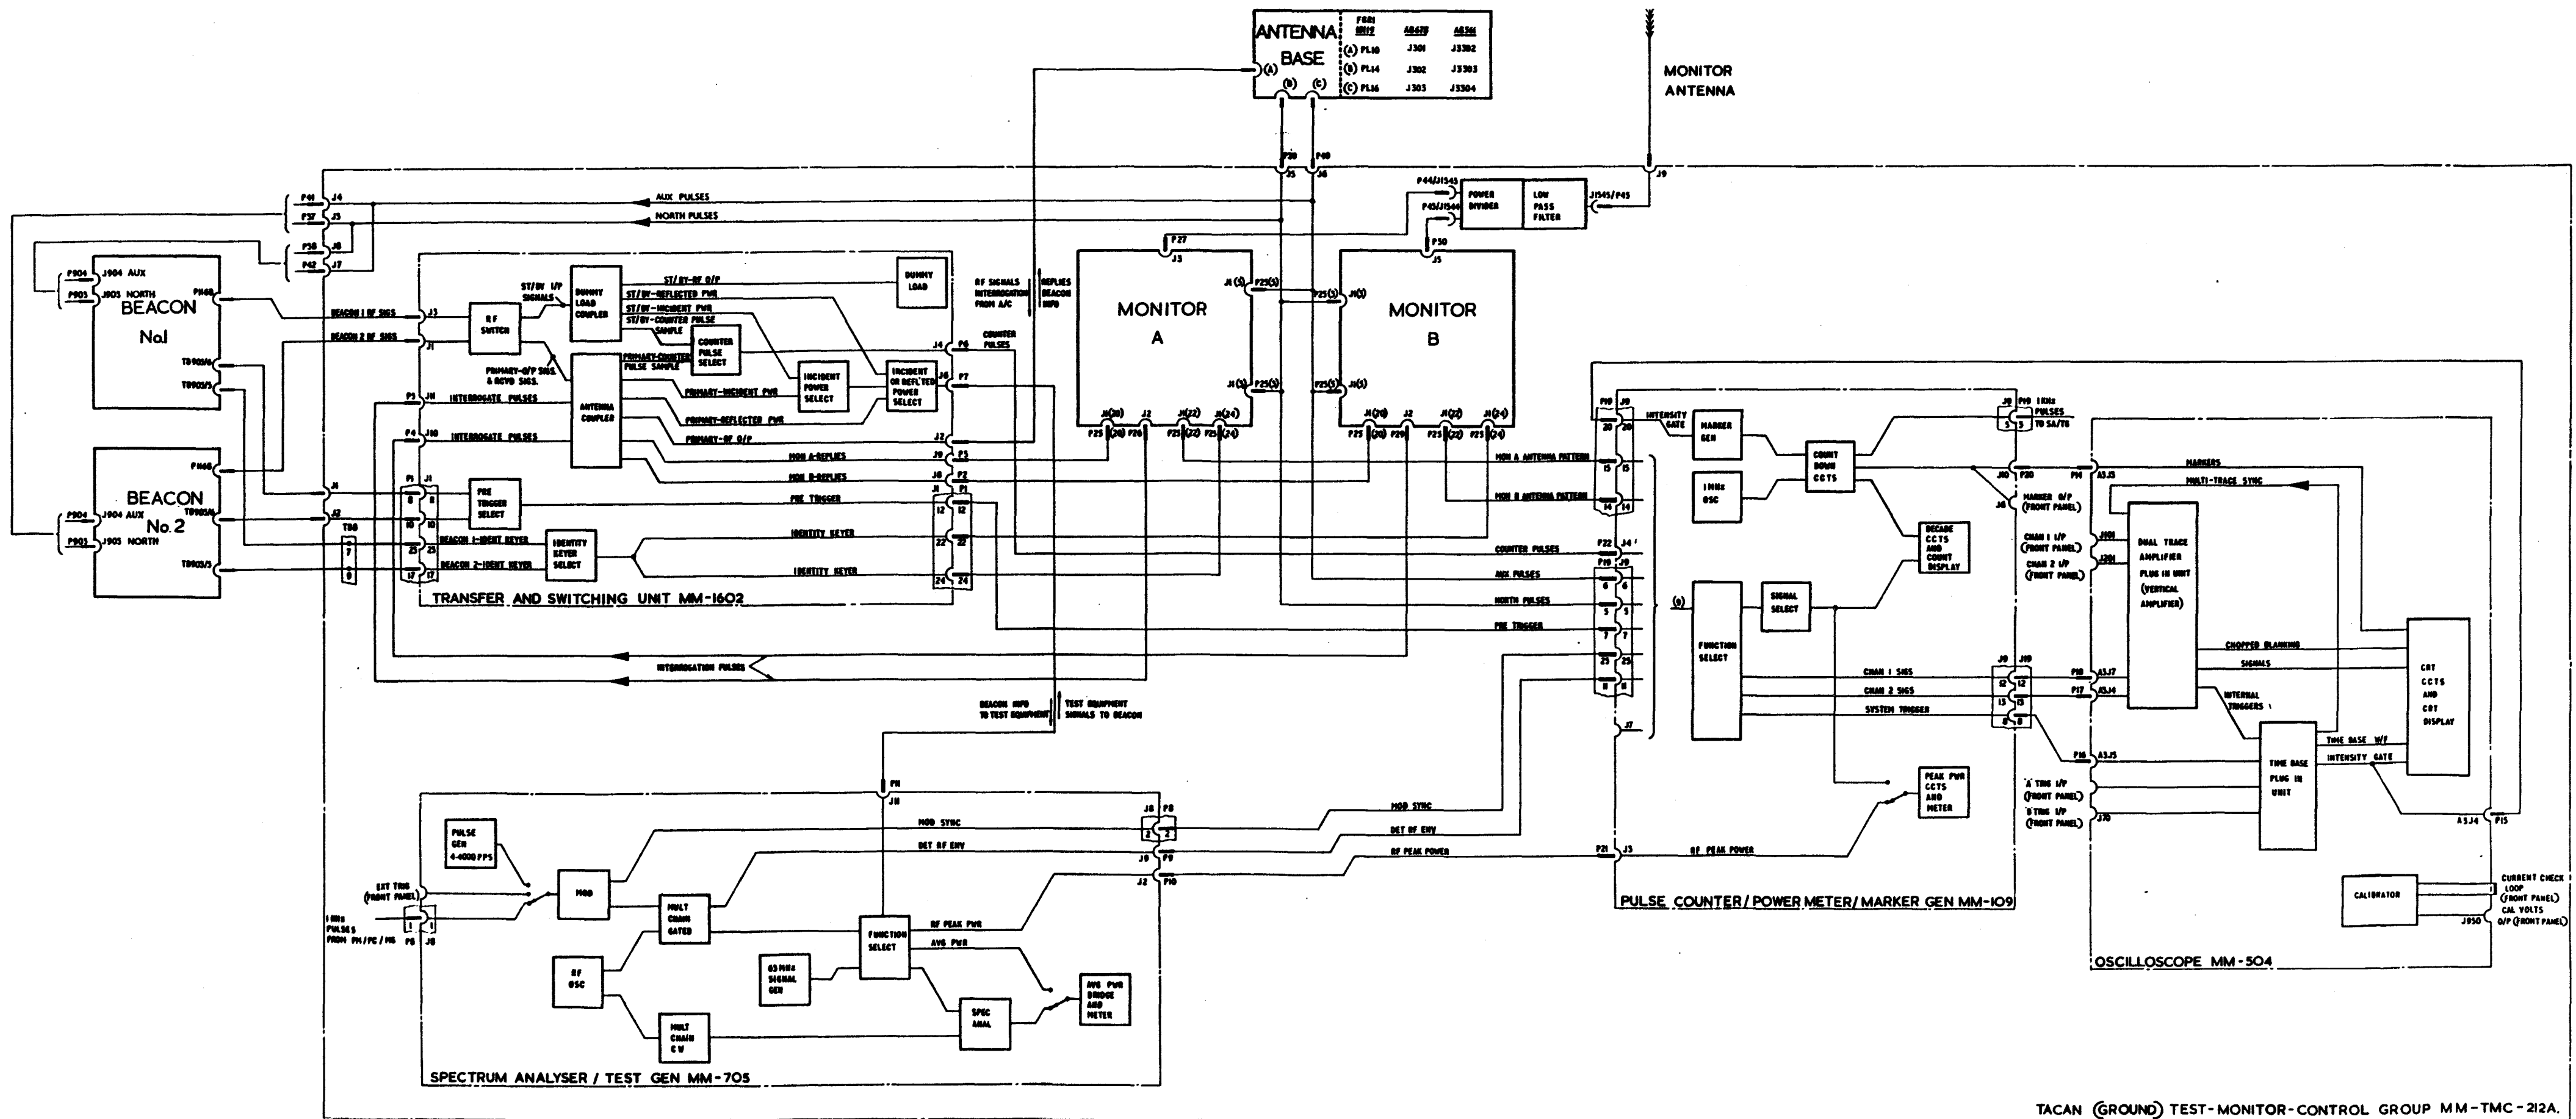

Figure 2-11a. TEST EQUIPMENT SIGNAL/CONTROL INTERCONNECTIONS. (SHEET 1 of 2)
- (1) Pulse-Sweep Generator SG-121A/URN-3 (Technical Manual NAVSHIPS 92745).
- (2) Pulse Analyzer-Signal Generator TS-890A/URN-3 (Technical Manual NAVSHIPS 93231).
- (3) Power Meter-Pulse Counter TS-891/URN-3 (Technical Manual NAVSHIPS 92809).
- (4) Switch-Test Adapter SA-420/URN-3 (Technical Manual NAVSHIPS 92809).
- (5) Oscilloscope OS-54/URN-3 (Technical Manual NAVSHIPS 92778).
e. BUILT-IN TEST EQUIPMENT INSTALLATION (MM-TMC-212A). - The MM-TMC-212A has been designed to replace the built-in test equipment described in para 2-4d and completely replaces the AN/GRA-34 Control Monitor Group. Minor modifications to the AN/GRN-9D are necessary in order to incorporate the TMC-212A and these are described in AP 116C-0702-1A6A which also includes complete installation details of the TMC-212A. The schematic and wiring diagrams in this manual incorporate the changes resulting from the introduction of the TMC-212A and a block diagram of the equipment is shown in Fig 2-11a whilst Fig 3-13a shows the front panel connections required to perform certain standard tests described in paragraph 3-6a(12). The TMC-212A rack comprises the following pieces of test equipment whose functions are briefly described in TABLE 1-2b.
- (1) Transfer and Switching Unit MM-1602